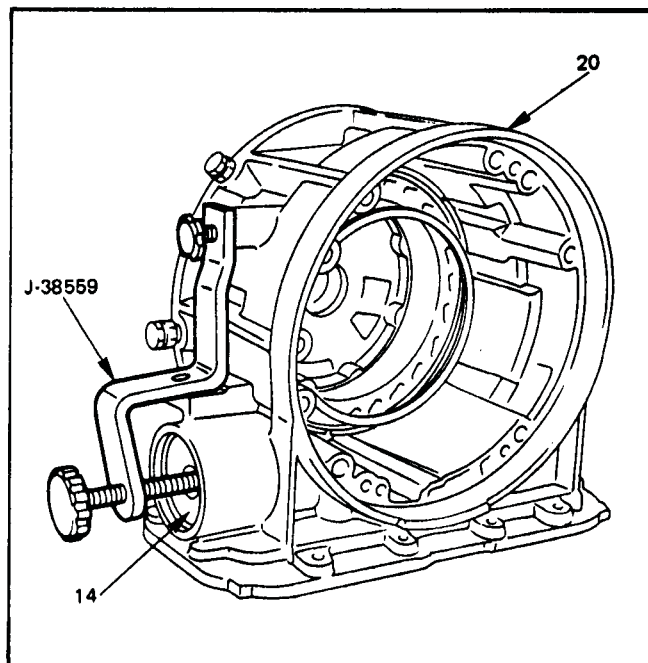

Figure 58
6. Install compression tool J-38559 as shown in Figure 58, compress accumulator cover, and install snap ring.